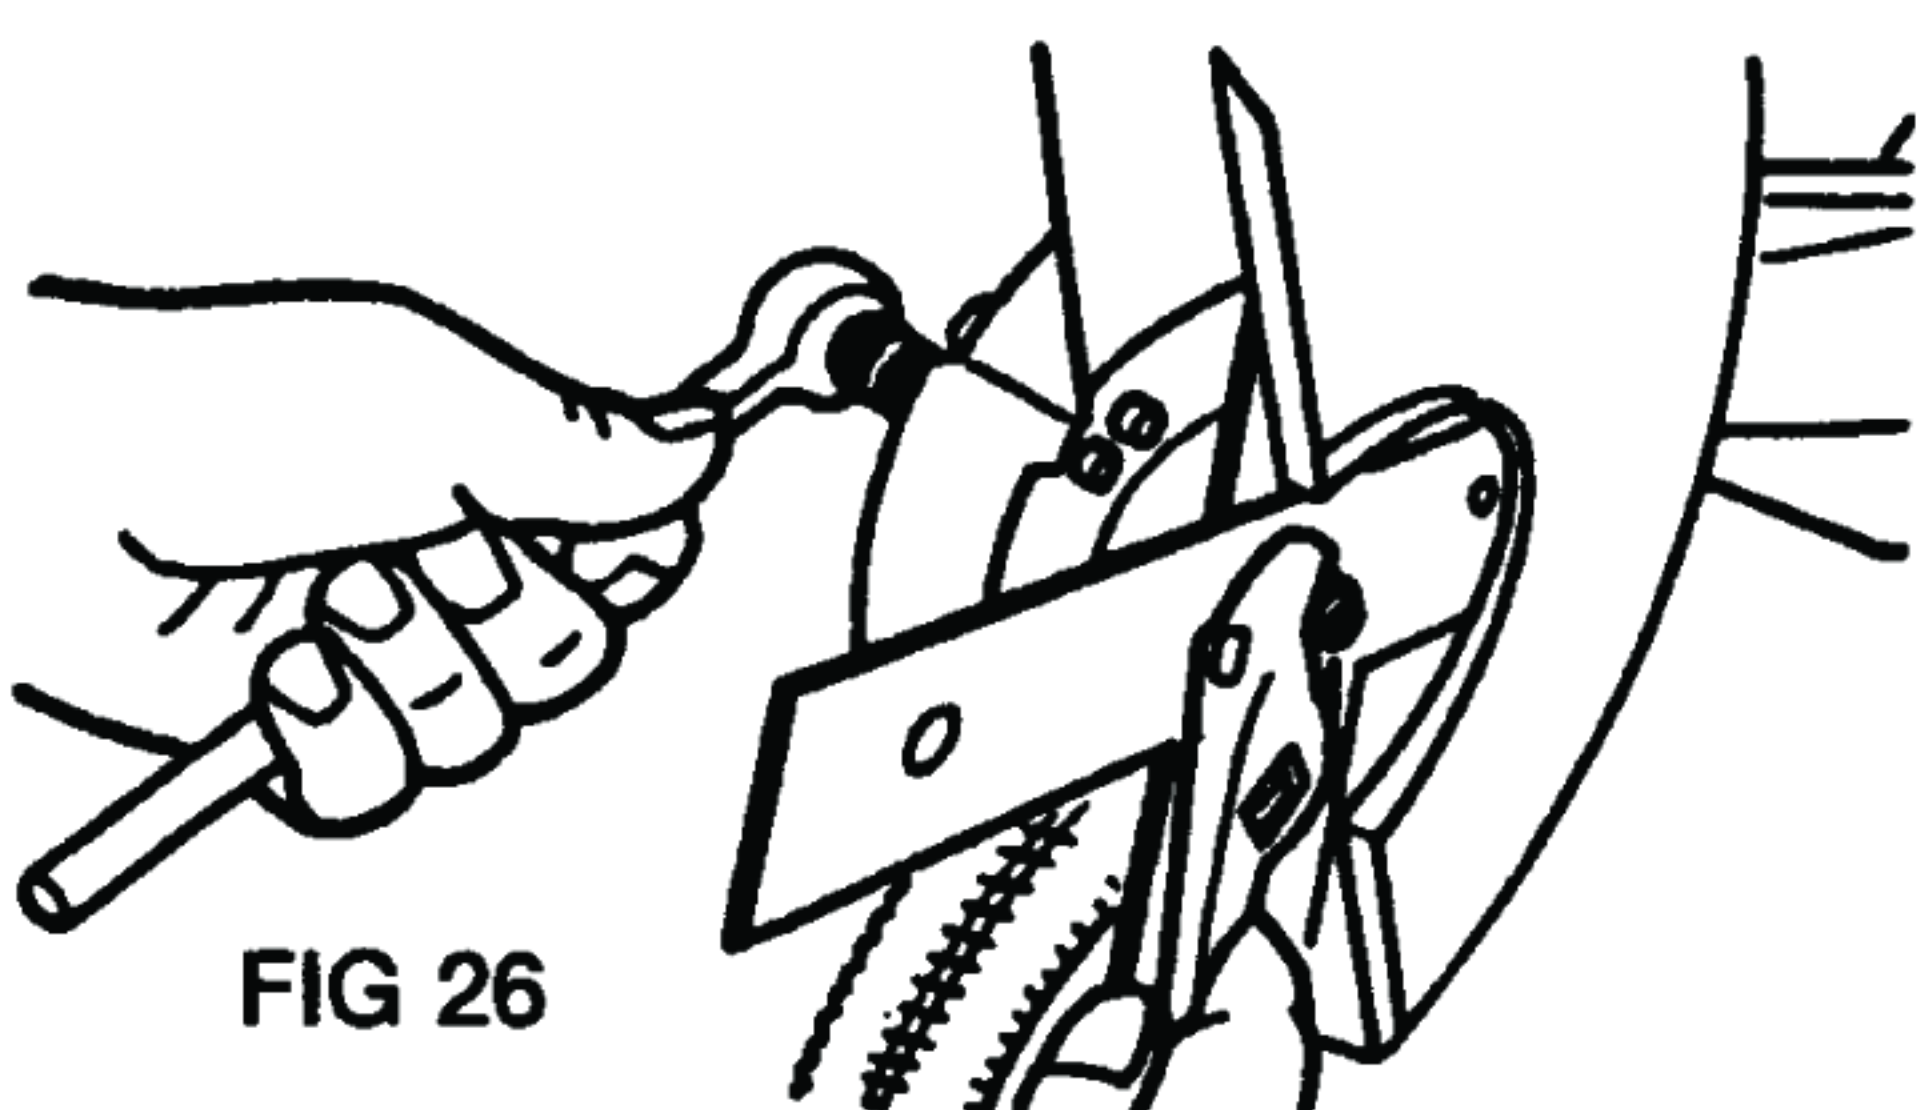

FIG 26
2. Through dust cover hole, place 14 mm socket and place 17 mm wrench on blade nut (Fig. 26). Alternatively use an impact wrench.